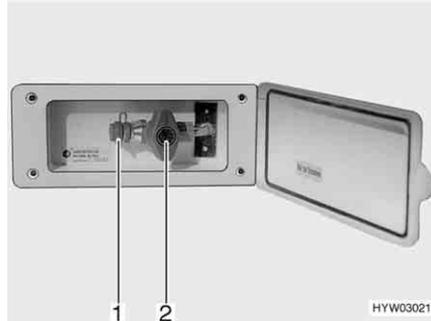

Fig. 145 External gas connection, gas isolator tap closed
The external gas connection (Fig. 145) is located at the rear or to the left or right of the vehicle depending on the model.
- Connect the external gas device to the connection point (Fig. 145,1).
- Open the gas isolator tap (Fig. 145,2).